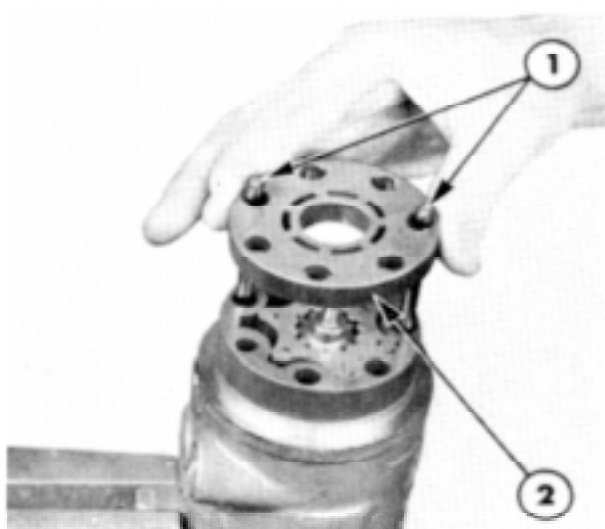

Figure 24
22. Install manifold over assembly posts and onto rotor set, make sure circular slot side of manifold is up. With reference Figure 24.